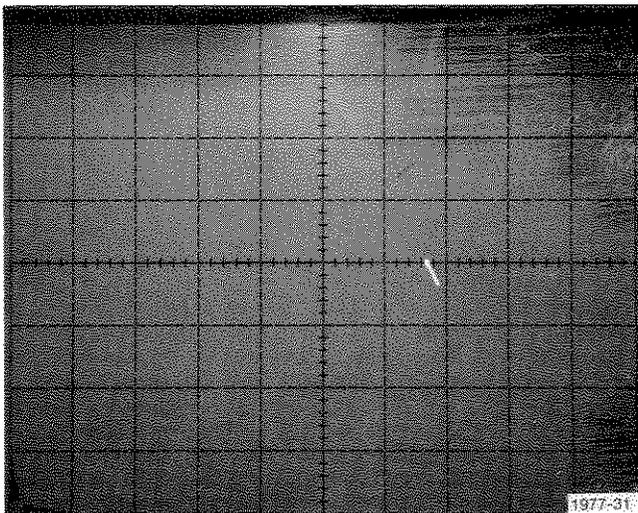

Fig. D-2. Typical input offset voltage display.
b. Turn the Offset Mult control on the 577 to bring the display back to the zero reference line established in the Preliminary Procedure (see Fig. D-2).